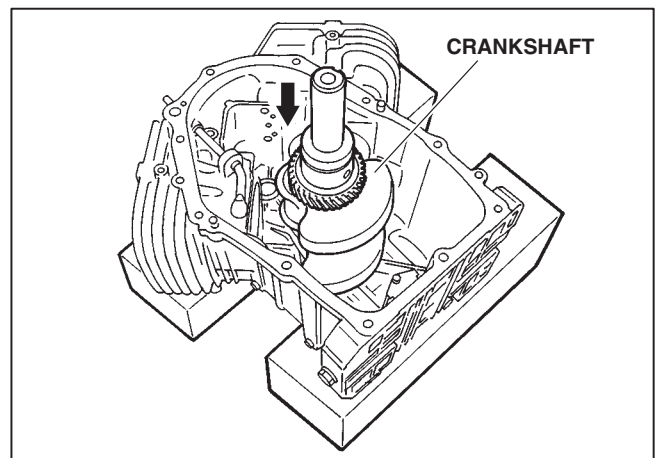

FIGURE 6-4.
1. Install crankshaft into crankcase (Figure 6-4).